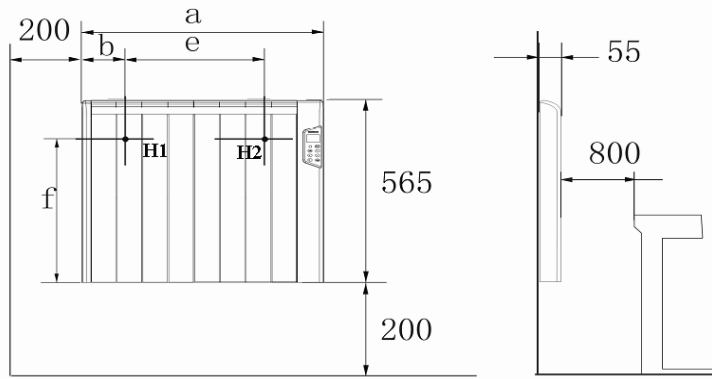

Figure 2
- Before fixing heater on a wall, be sure that once unit installed it must be kept at a minimum distance (shown in figure 2) from any objects (side wall, floor, furniture, ect.).